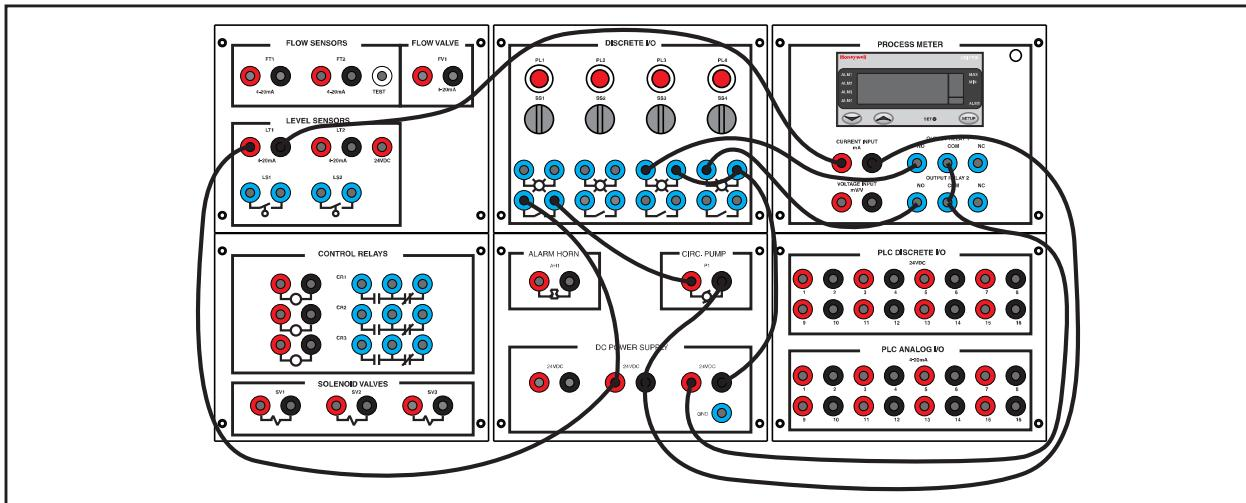

Figure 3-2. Level Circuit using Process Meter Alarm Relays
- H. Connect the circuit shown in figure 3-2.